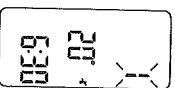

Fig. 16
- a) Press the **PROG** button until event 1 flashes (Fig. 16).